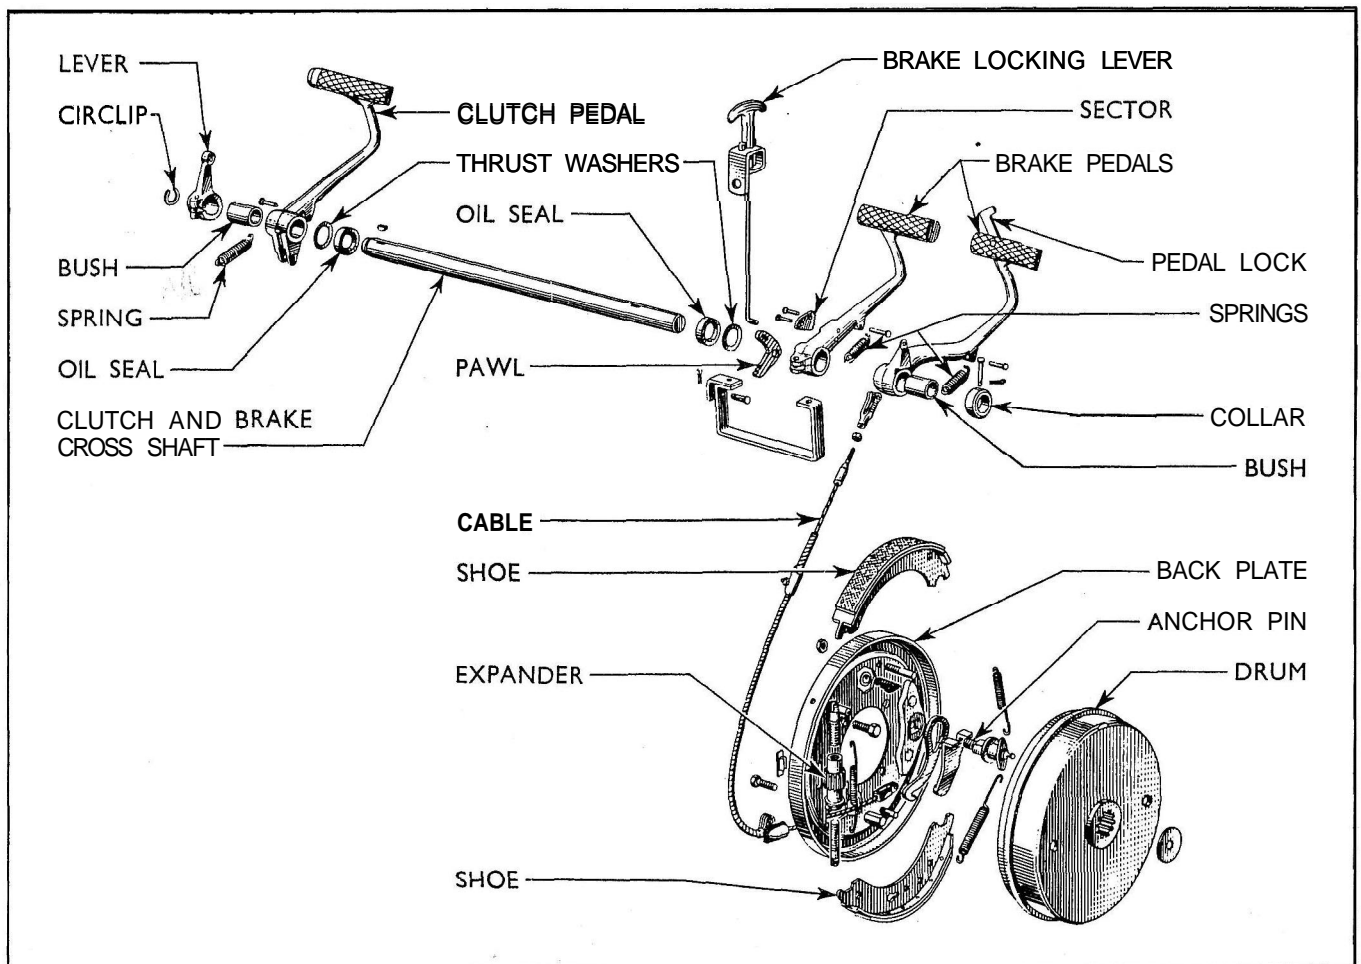

Fig. 226
- 2 Remove the split pin and disconnect the brake locking lever rod from the brake pedal pawl (see Fig. 226).